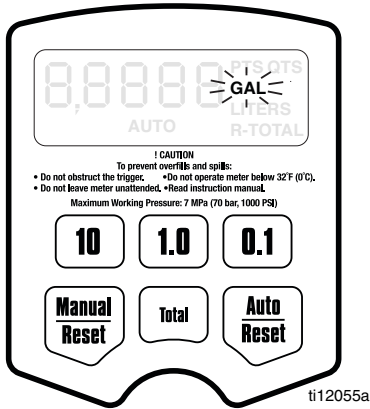

FIG. 25
- b. Press and hold the **Auto / Reset** button to display the Units of Measure Menu (FIG. 25, page 18). When this menu is displayed the last set Unit of Measurement blinks in the lower right corner on the screen.
## Units of Measurement (FIG. 25)